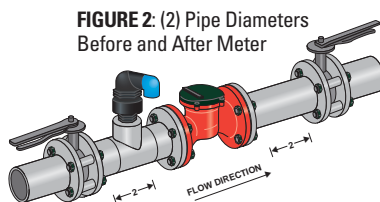

FIGURE 2: (2) Pipe Diameters Before and After Meter
- Two (2) diameters of straight pipe are required when installing the meter upstream or downstream of a valve, tee connection or other source of significant turbulence. (See Figures 2 and 3)